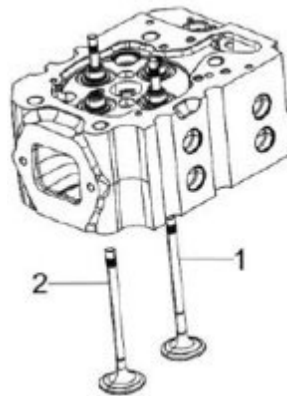

Figure 71. Valve Assembly
4. Place all the valves (Figure 71, Items 1 & 2) in their proper location in the cylinder head.